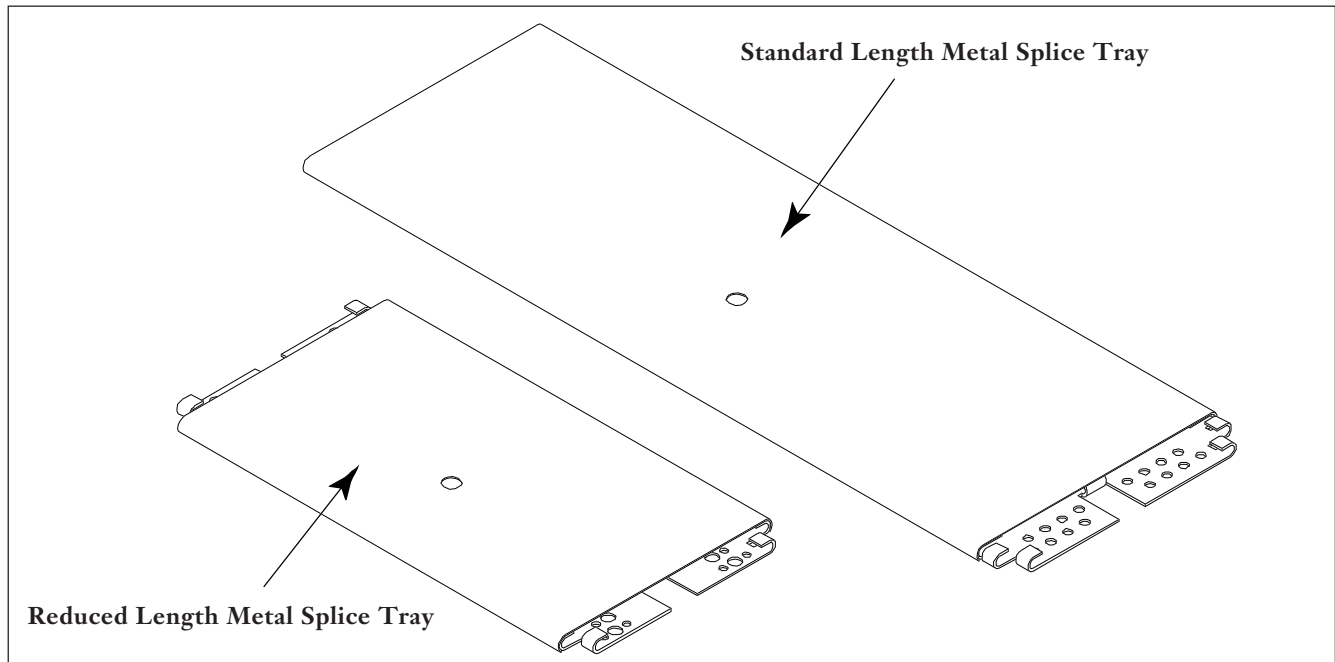

Figure 1
1.1 This document describes the installation of optical fiber into a typical metal splice tray manufactured by Corning Cable Systems Corporation (Figure 1).